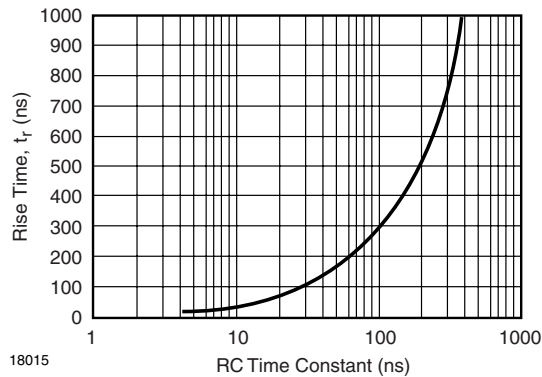

Fig. 14 - Typical Rise Time vs. Load for $V_{CC} = 5\text{ V}$ (Test Circuit See Figure 15)
Details of the relationship between the rise time t_r and the pull-up resistor R_P /load capacitance C_L are shown in figure 14.
As previously mentioned above, the pull-up resistor has to be chosen in accordance with the equations (9), (10), and (12). Figure 14 plots the expected rise time t_r versus the time constant $\tau = R_P \times C_L$. Unlike the rise time t_r , the fall time t_f is mostly independent of R_P and around 5 ns.